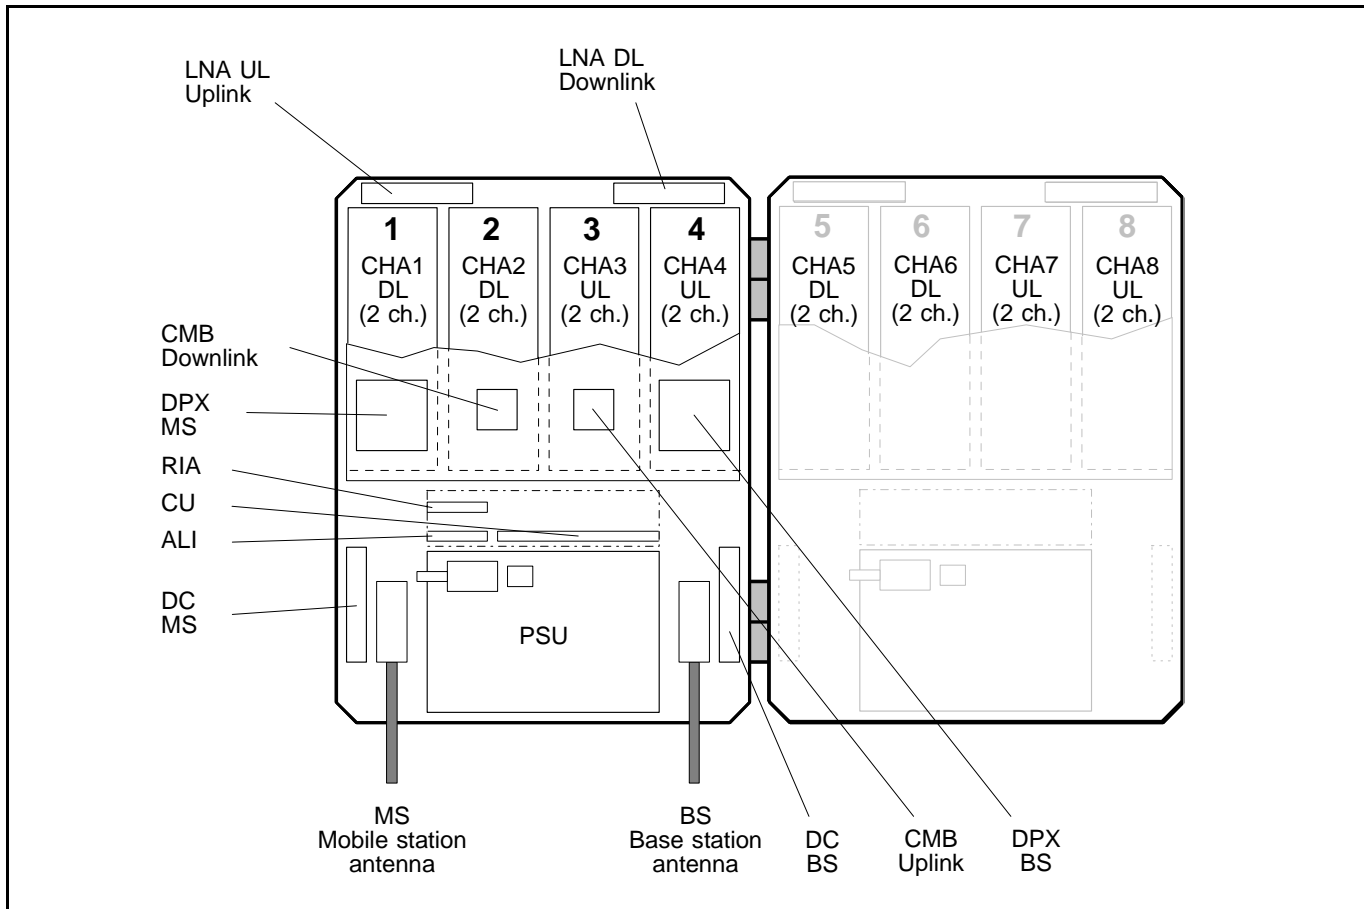

Figure 5-1. Channel selective GSM repeater
A cabinet (the left part in Figure 5-1) for a channel selective GSM repeater can be equipped with four CHA channel boards, two downlink boards (DL) with two internal channels each and two uplink boards (UL) with two internal channels each. The described cabinet has a capacity of four bi-directional GSM channels.
The cover (the right part in Figure 5-1) can be equipped as well, which gives up to eight GSM channels. The cover board positions are shown in the figure.